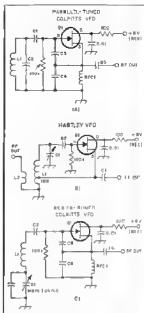
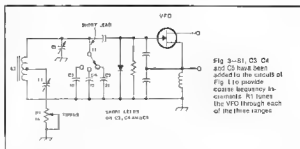
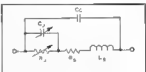

Fig. 4 — Examples of coil-capacitor oscillators (see text).
Fig. 3—S1, C3, C4 and C5 have been added to the circuit of Fig. 1 to provide coarse frequency increments. R1 tunes the VFO through each of the three ranges.
Fig 1—Electrical equivalent of a VVC diode, showing components of  $C$ ,  $L$  and  $R$  (see text).
Three types of LC oscillators are shown in Fig. 4. The first example (A) is probably the most common of the three in ham equipment. Since C2 and L1 are in parallel, this is called a parallel-tuned oscillator. C3 and C4 provide the path for our feedback energy. In LC oscillators the value of C3 and C4 are approximately the same. A
Refer again to Fig. 2. L2 is a small variable inductor we made from the potentiometer. It comprises a part of the overall circuit inductance by virtue of its being in series with L1. As L2 is adjusted, the VFO frequency will change. The higher the operating frequency of the VFO, the greater the frequency change caused by L2. Also, the higher the C-to-L ratio of the VFO, the more effect you will observe when L2 is adjusted. The frequency shift obtained with this method is substantially less than with the circuit of Fig. 1, at least with the circuit values given. A 10-kHz shift was observed.
Incremental band-segment selection can be had with either circuit (Figs. 1 and 2) by adopting the method shown in Fig. 3. S1 is used to add capacitors to the VFO input circuit, and R1 or L2 can be used in the manner described previously. Perhaps a miniature DIP switch can be added to operate as S1 when compact equipment is being built. The values of capacitors C1, C4 and C5 will determine the coarse tuning range. Trimmers may be substituted for these fixed-value capacitors, which will enable you to have the tuning ranges overlap.
Fig. 4—Mechanical details for a homemade disc tuning capacitor. A tension spring ensures mechanical stability of the rotor portion of the variable capacitor. Side brackets also help to keep the unit mechanically rigid. This detail at B shows how the stator disc is mounted on PC board material.
Fig. 3). A simple mechanism is illustrated in Fig. 4. It is one that I developed during my search for simple VFO tuning methods. The drawing at A of Fig. 4 shows a side view of the assembly I constructed. A piece of 1/4-in. x 30 iron bolt is used as the tuning shaft. The inner plate of the inner is a piece of copper-clad PC board. The hex nut is soldered to the inner surface of this end plate, as shown. A disc of copper or brass serves as the capacitor rotor. It is soldered to the end of the bolt that is opposite the knob. I used a 1-inch-diameter disc, and made certain it was at an exact right angle to the bolt when I soldered the two pieces together. A spring is used between the disc plate and the front-plate bearing nut to prevent wobbling and undue backlash. PC-board brackets are soldered (four each) to the front bracket and stator plate bracket to ensure physical stability.
When you are working with the elements of Figs. 1 and 2, it is important that the Q of L1 be as high as you can make it. If the Q is quite low, the addition of R1 or L2 could cause the VFO to cease oscillating at some point in the tuning range. Therefore, I suggest that you use a T66-6 toroid core for frequencies above 4 MHz. The wire size should be as large as can be wound easily on the toroid core. This will reduce the coil resistance and enhance the Q. The same rule applies if you use a single-tuned inductor: The coil should be low loss in the upper part of the HF spectrum. High-quality capacitors should be used also. The NP0 units specified are entirely suitable, and will ensure minimum VFO drift. Silver-mica capacitors can be used, but will cause considerably more drift than will the NP0 ceramic units.
Fig 1 shows the equivalent electrical circuit of a VVC diode. Note that there are components of capacitance, resistance and inductance present.  $C_j$  is the stray case capacitance,  $C_s$  is the junction capacitance (voltage variable),  $L_s$  is the diode series inductance, and  $R_j$  is the junction resistance.
Fig 3—Abbreviated capacitance/reverse voltage curve for an MV2109 tuning diode. Note the flat portion of the curve to the left (see text for precautions about reverse voltages from 0.1 to 1.5).
The change in diode capacitance is quite nonlinear as the reverse voltage is decreased below approximately 2 V. This means that we should design for operation in a reasonably linear portion of the curve. Fig 3 shows a typical VVC diode voltage/capacitance curve. You can see that there is very little capacitance change from 0.1